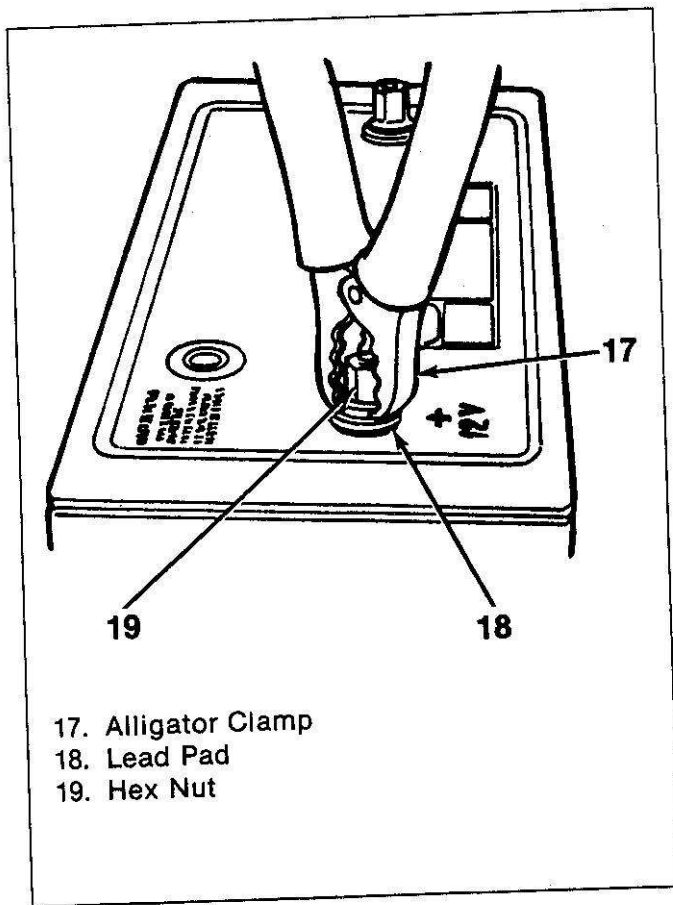

Figure 5. Testing and Charging Terminal Adapter (Top Terminal Battery)
2. Attach terminal hex nuts, required for testing and charging as shown in figure 5.
- The alligator clamps of the tester or charger should be placed between the terminal nuts and the lead pads of the terminal studs as shown in figure 5. If the tester clamps cannot be attached between nuts and lead pads of the terminals, the load value of "Load Test" should be 210 amperes.